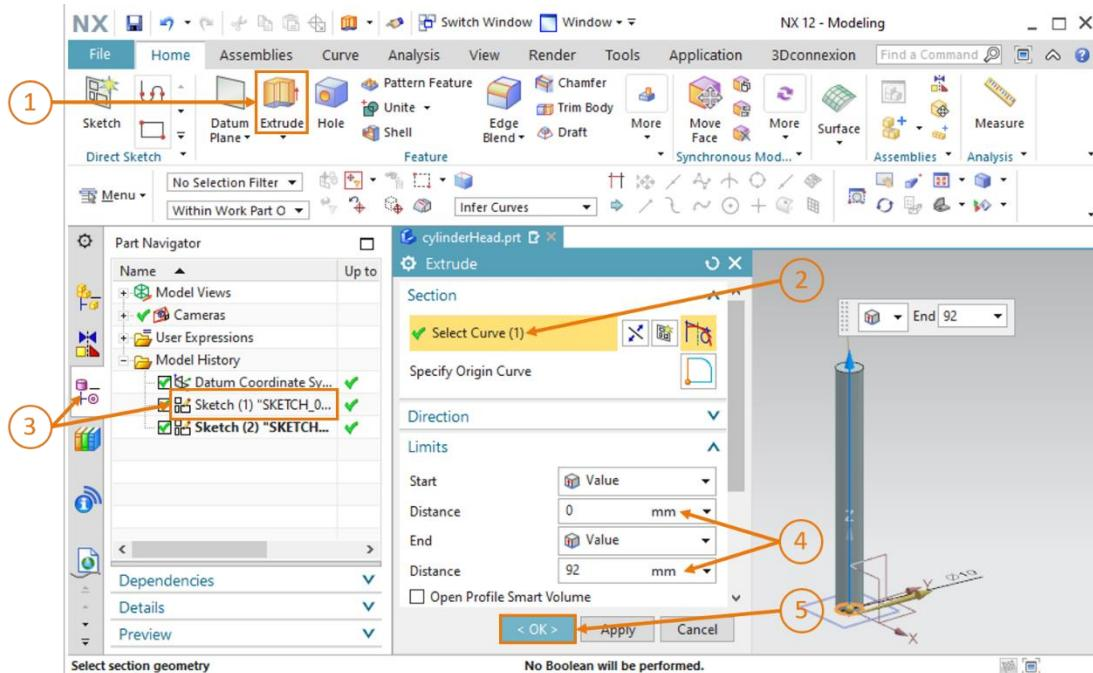

Figure 40: Creation of the guide cylinder by extruding
- As the first 3D body of this model, create the guide cylinder for the head of the thrust cylinder. To do so, open the "Extrude" command window (see Figure 40, step 1), and for definition of the sketch, as described previously in Chapter 7.1.5, select the first sketch with the circle in the Part Navigator. Here, this is named "Sketch (1) "SKETCH\_000" " (see Figure 40, steps 2+3). Specify a distance of **0 mm** for the start value and a distance of **92 mm** for the end value (see Figure 40, step 4). Confirm your entries by clicking the "OK" button (see Figure 40, step 5).